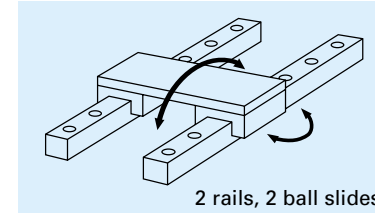
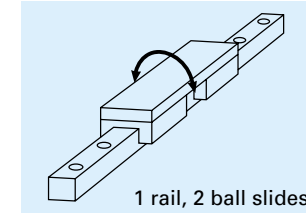
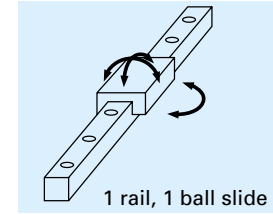

Fig. II-2-5 Pitching and yawing direction
Fig. II-2-6 Rolling direction
Fig. II-2-7 All directions
- However, in cases as shown in Fig. II-2-5, Fig. II-2-6 and Fig. II-2-7, it is necessary to take into account the moment rigidity in addition to the radial rigidity.